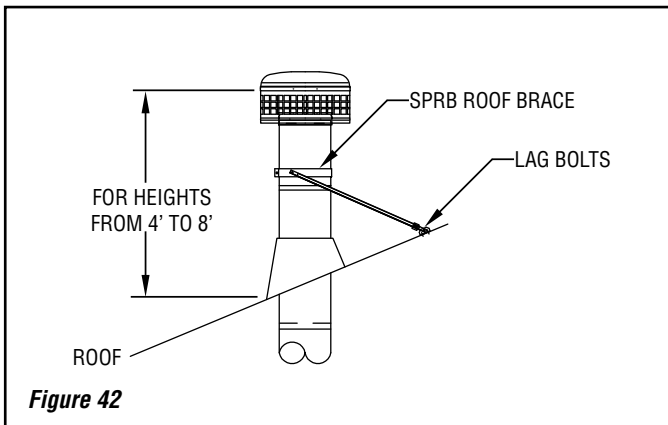
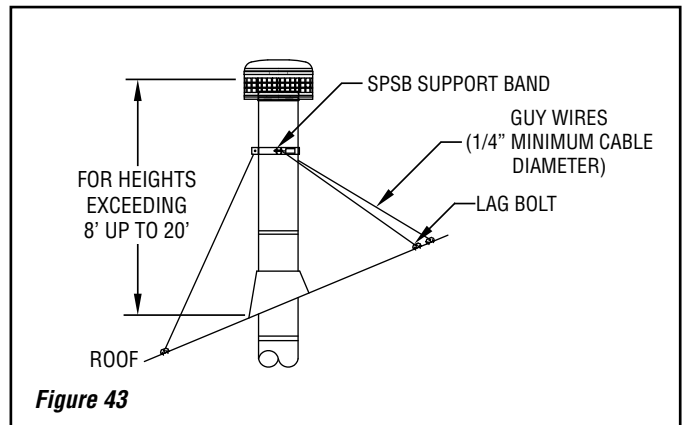

Figure 42
Figure 43
Select the proper support for your application-using either a roof brace (**Figure 42**), or a support band with guy wires (**Figure 43**)
3. Position the support legs as shown in **Figure 42**. The length of the support legs can be adjusted by loosening the bolt on the leg clamp.